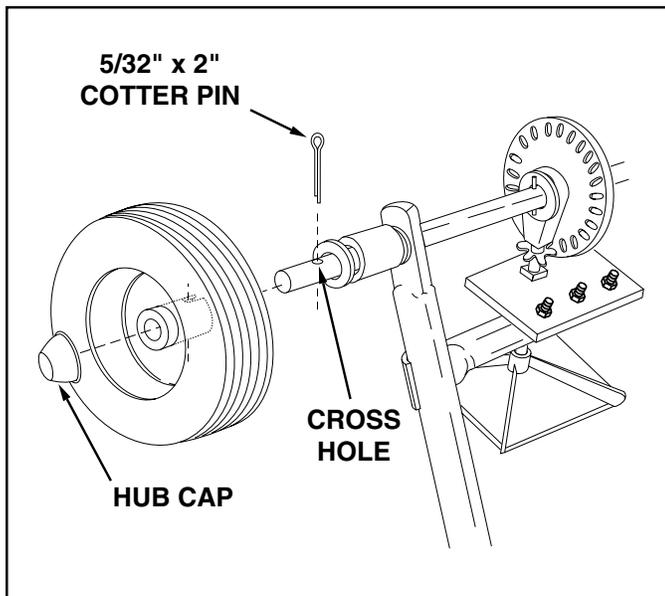

FIGURE 7
11. Place a wheel onto the end of the axle that has a cross hole. The long end of the hub goes to the inside. See figure 7.
12. Assemble a 5/32" x 2" cotter pin through the notched wheel hub and the axle. See figure 7.
13. Place a hub cap onto the end of the axle. Using a small hammer, lightly tap the hub cap until it is snug against the wheel. See figure 7.